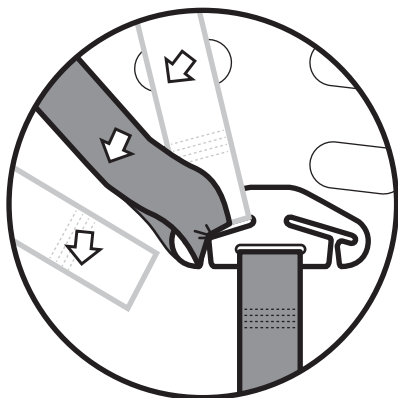

Figure 4
Step 5: The shoulder harness straps go directly from the shoulder slot holes to the spreader plate. Thread each shoulder harness strap back onto the metal spreader plate through the gate (see Figure 4).